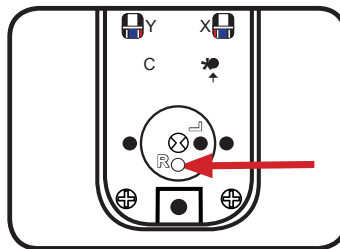

Fig.2
2. Lift the cover plate off to expose the handing pin underneath as per **Fig.2**.